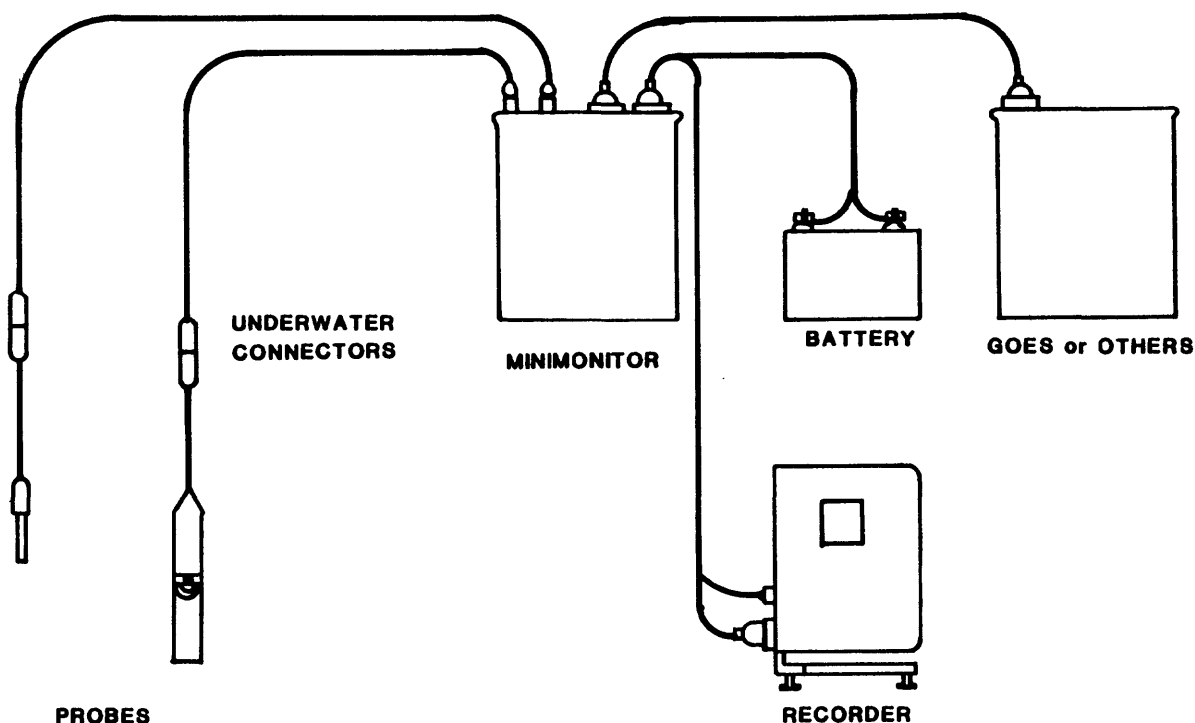

Figure 1.--Minimonitor connection.
The Minimonitor is a system designed to measure and record as many as four values of water-quality constituents or properties. An expanded version can measure as many as eight constituents or properties. A watertight can containing signal conditioners is connected with cable and waterproof connectors to various water-quality sensors. The system is composed of a battery-powered electronics package, a Leupold and Stevens (L&S) digital input-output 16-channel, paper-tape recorder, and sensors with or without extension cables having underwater connectors and, in some instances, a Geostationary Operational Environmental Satellite (GOES) data-collection platform (DCP) or other equipment. (Figure 1 shows a Minimonitor connection.) An external battery is required and when in operation, the unit turns itself on at every recording interval; scans, measures, and records the values of the constituents or properties on paper tape; and then, turns itself off until the next interval has elapsed. An internal crystal clock, which is user-settable from 1 to 79 minutes, controls the recording interval. Unlike the Survey Flow-Through Monitor, the sensor or sensors can be placed directly into the river if they are properly protected. This feature eliminates the need for a pump and a sample chamber. The Minimonitor system will function also with the sensors positioned in a sample chamber that has water pumped into it. The Minimonitor is available to measure temperature, specific conductance (conductivity), dissolved oxygen (DO) and pH, along with other acceptable voltage inputs from other instruments like the Ultrasonic Ranger. The Minimonitor is available on a rental basis from the HIF.